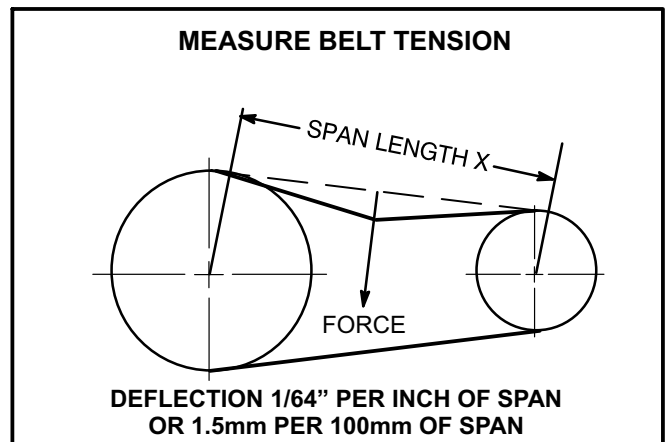

FIGURE 20
- 1- Measure span length X. See figure 20.
- 2- Apply perpendicular force to center of span (X) with enough pressure to deflect belt $1/64"$ for every inch of span length or 1.5mm per 100mm of span length.